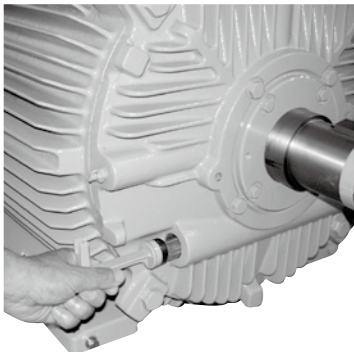

Figure 21.4 The grease remover
- (A) Always remove the unwanted grease before replacing it with new grease.
- (B) First, remove the grease remover (Figure 21.4).